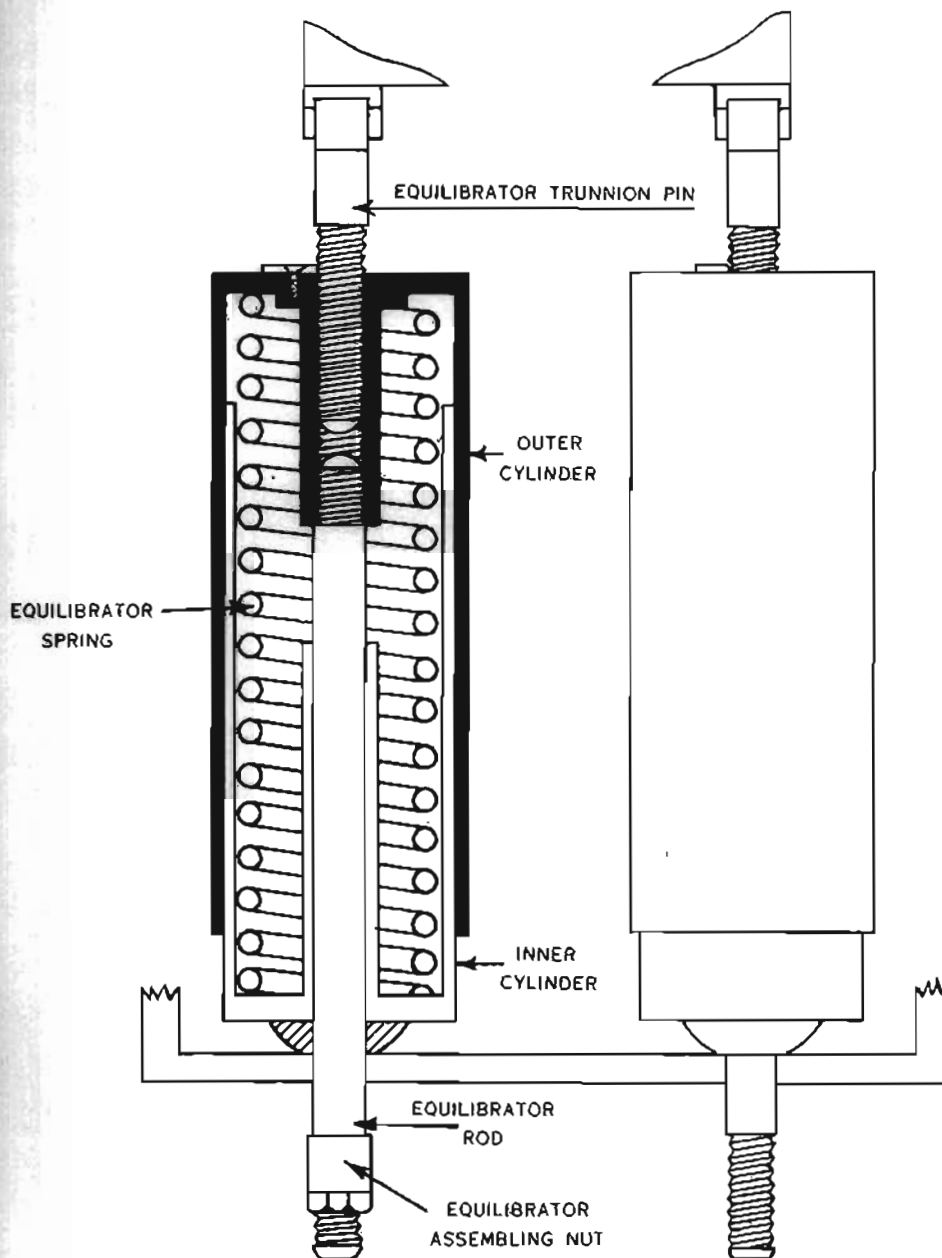

Figure 6
- (1) Right--355 mils.
- (2) Left--345 mils.
D. Equilibrator assembly (fig. 6).